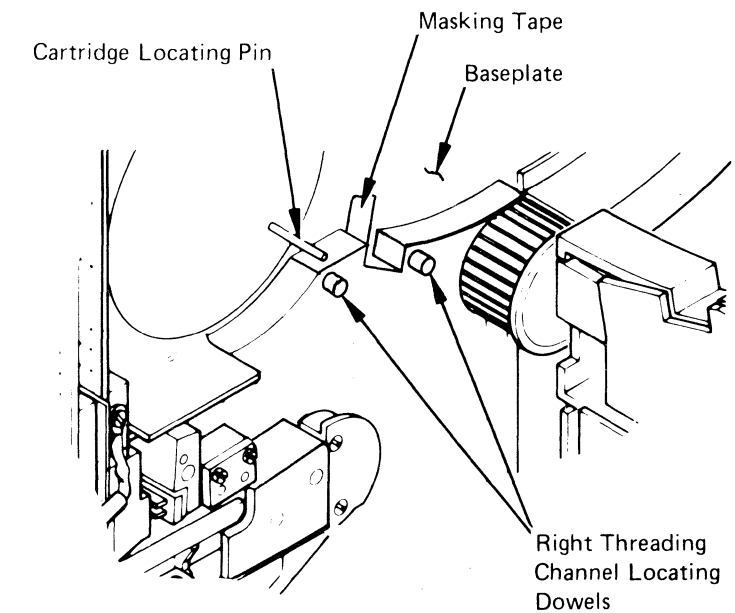

Figure 4.
14. Tape the cartridge present plunger flush to the base plate (see Figure 4).